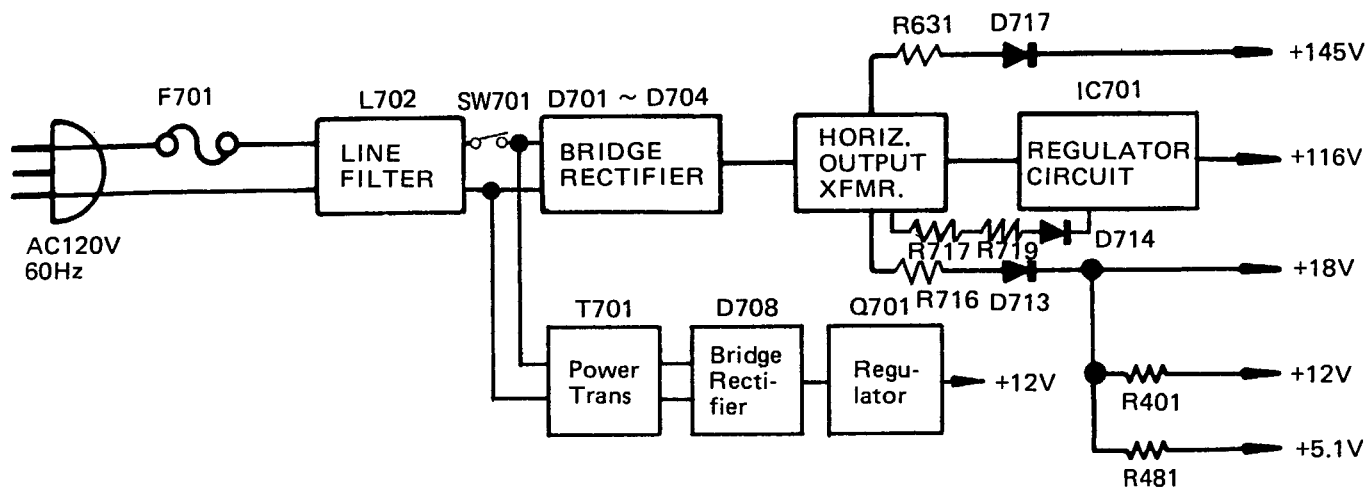

Figure 7. Block Diagram of Power Supply
7. Power Supply (Figs. 7 – 10)